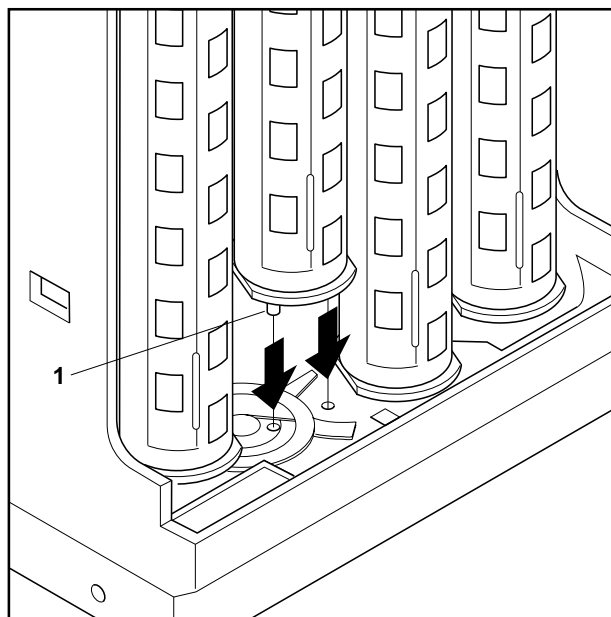

Fig. 14: Mount tubes
1. Insert left or right tube into payout set so that the 2 pins (1) on the bottom of the tube enter into the appropriate holes of the payout set (see fig. 14).